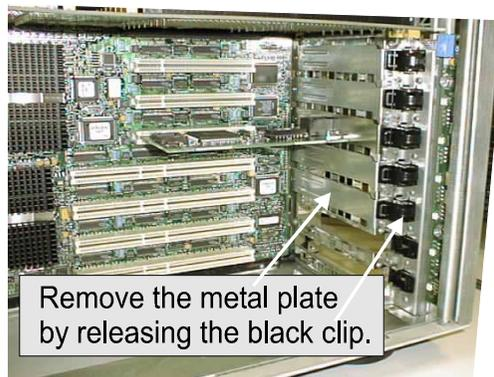

Figure 2-6. Remove the Metal Plate
2. Remove the metal cover plate from the slot's access port (usually at the back of the cabinet) by releasing the black clip as illustrated below shown in Figure 2-6.